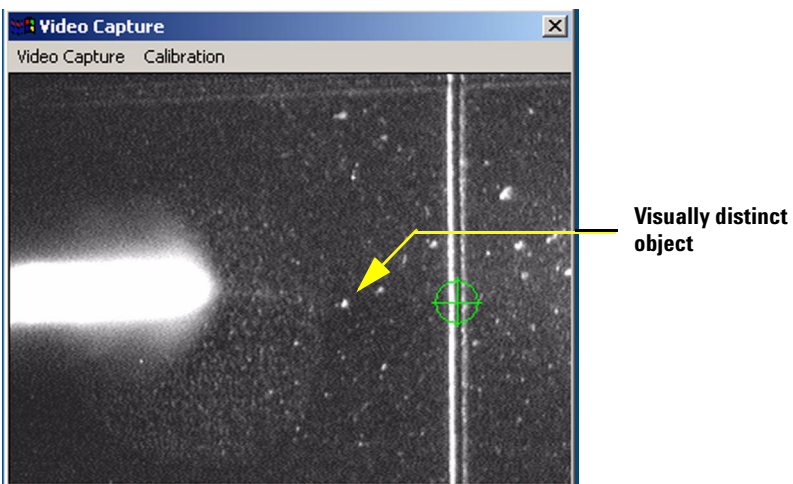
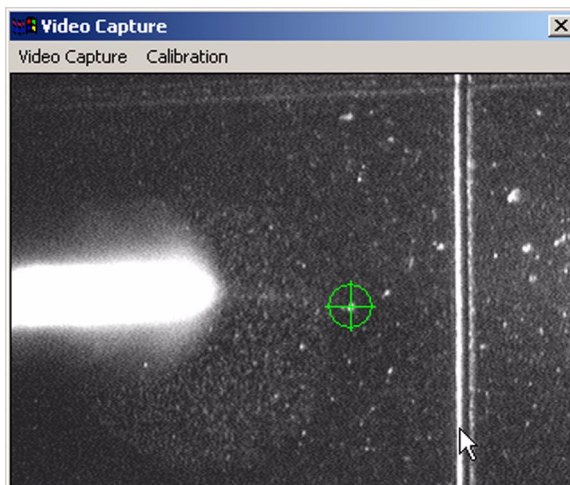

Figure 152 Video capture screen showing the location of the visually distinct object after step 2
Figure 153 Video Capture screen showing green target that was dragged over the visually distinct object in step 3
- 4 In step 3 of this calibration procedure, the Target Plate moves horizontally (see Figure 152). Watch to see where the visually distinct object moves, then drag and drop the green target icon over the same object. See Figure 153. Click **Next**.